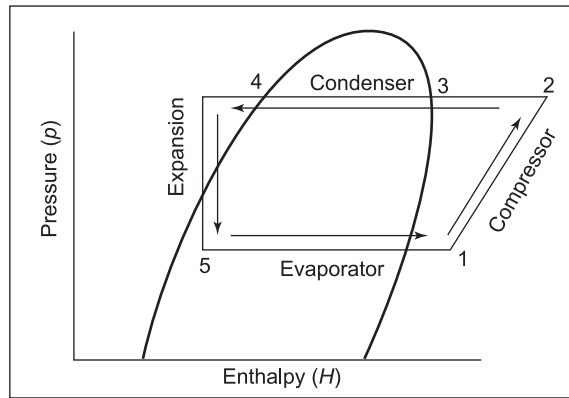

Figure 1.4 A typical pressure-enthalpy diagram for an air conditioner
4. **Air conditioners:** This is another important application of thermodynamics. Air conditioning is very much needed in large buildings such as an office, a computer lab, a research lab or a hospital operation theater. Different technologies and methods have evolved over years such as split air conditioning, central air conditioning, etc. Again, the concepts of humidity ratio and partial pressure are essential to achieve the required goal. The functioning of an air conditioner is shown in Figure 1.4.